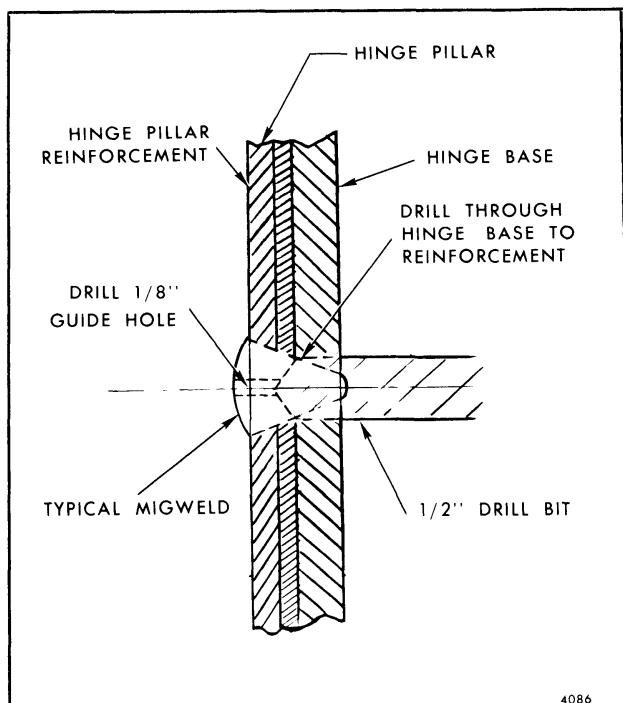

Fig. 5-62-Typical Weld
**NOTE:** When drilling out welds, drill only deep enough to penetrate hinge base to release hinge from panel as shown in Figure 5-62.